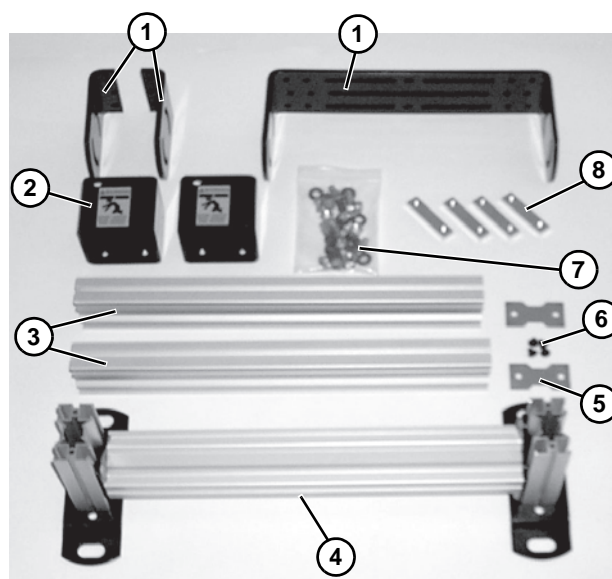
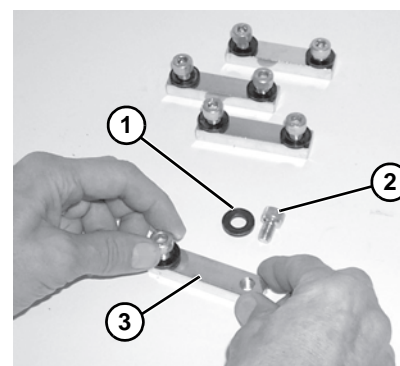

Figure 2
Figure 3
1. Typical components of multi tier stand (**Figure 2**).
2. Open tier hardware pack (**Figure 2, item 7**). Install two hard washers (**Figure 3, item 1**) and M8 x 12mm socket head screws (**Figure 3, item 2**) on tube joining bar (**Figure 3, item 3**). Do not tighten screws.